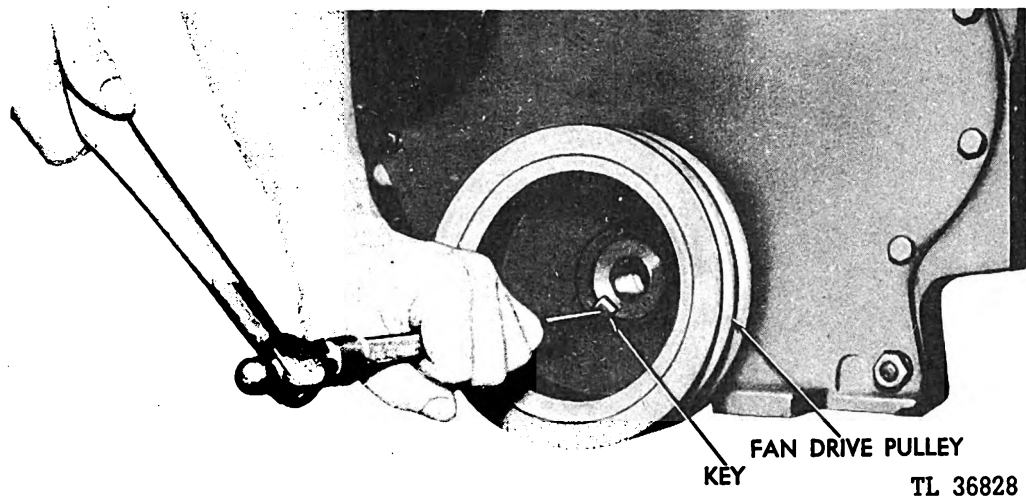

Fig. 176. Installing Crankshaft Fan Drive Pulley
**m. Installing Crankshaft Pulley.** Install the crankshaft pulley. Line up the key and keyway and drive it in, as shown in Figure 176, and screw on the crankshaft jaw.